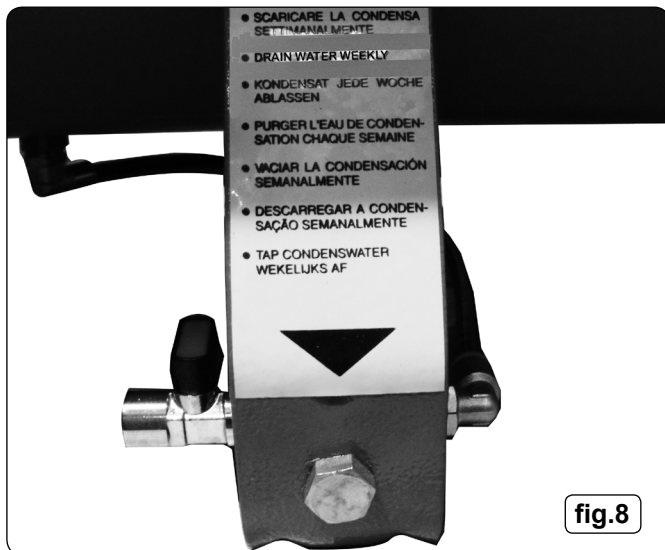

fig.8
- a) Drain condensation by opening the valve located under the tank (fig.8). Place a container under the valve and open the valve by turning anti-clockwise.